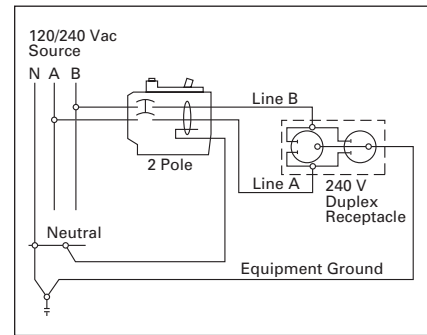

Figure 4-14. 2-Pole 240 Volt Load Application Sourced by 120/240 Vac
- ① Common trip refers to 2-pole 240 volt load application sourced by 120/240 Vac (See Figure 4-14).
- ④ Common trip refers to 2-pole 240 volt load application sourced by 120/240 Vac (See Figure 4-14).